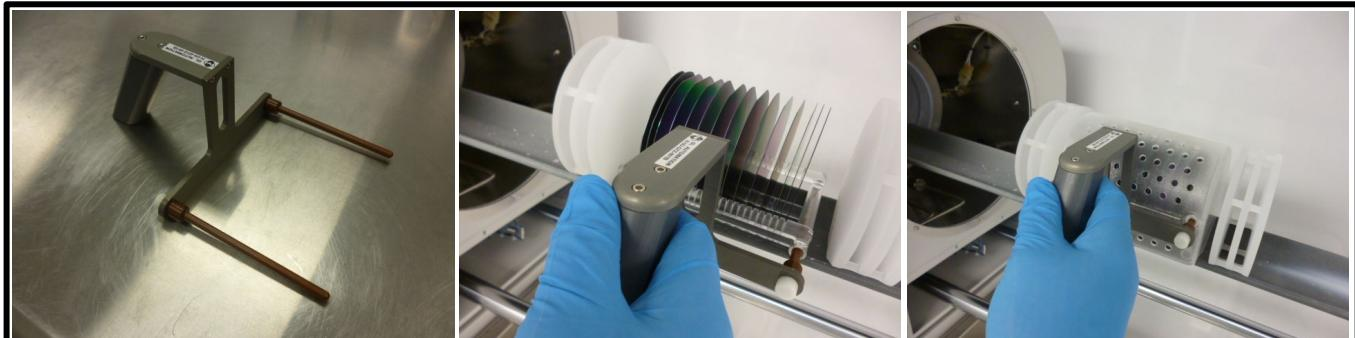

Figure 1, Boat Fork
- 6.5.1 Use the boat fork (see **Figure 1, Boat Fork**) to move boats and boat covers.